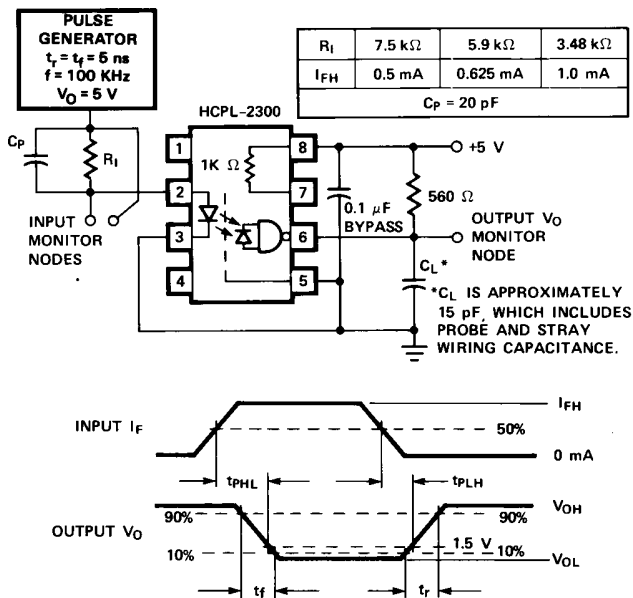

Figure 8. Test Circuit for t_{PHL} , t_{PLH} , t_r , and t_f .
8. C_{P} is the peaking capacitance. Refer to test circuit in Figure 8.